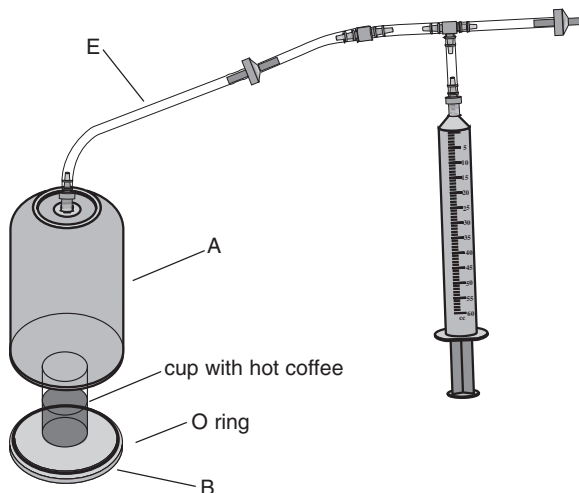

Figure 3
- Half-fill the plastic cup with very hot coffee, and place it on the base of the bell jar (Figure 3).